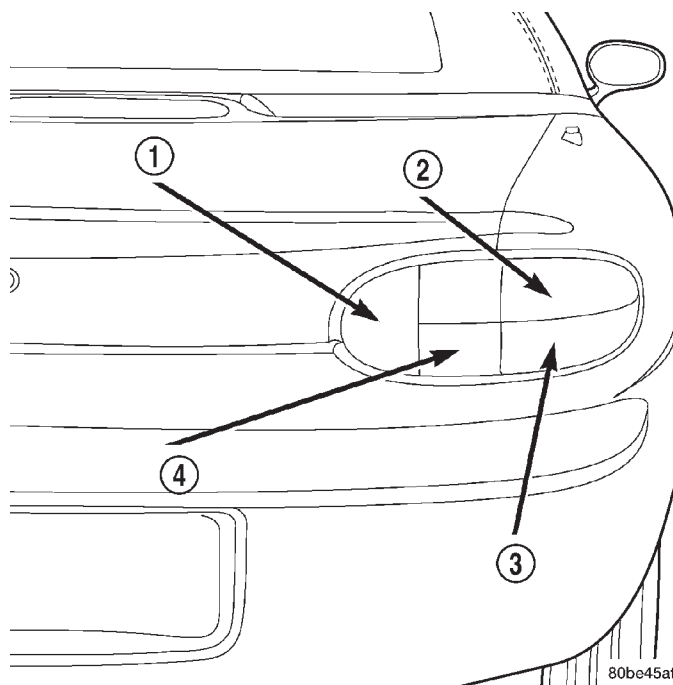

Fig. 15 Tail lamp Orientation
(3) Pull the tail lamp assembly straight away from the quarter panel until the mounting studs clear there locating holes.
(4) Rotate the appropriate bulb socket counter-clockwise and pull it straight from the tail lamp assembly (Fig. 15).
(5) Pull the lamp bulb straight from its socket (Fig. 15).